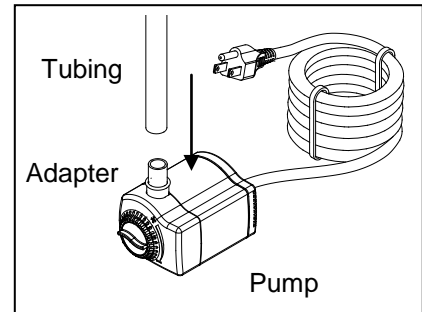

Fig. 1
1. Connect tubing to the outlet of the pump with the adapter. Fig. 1